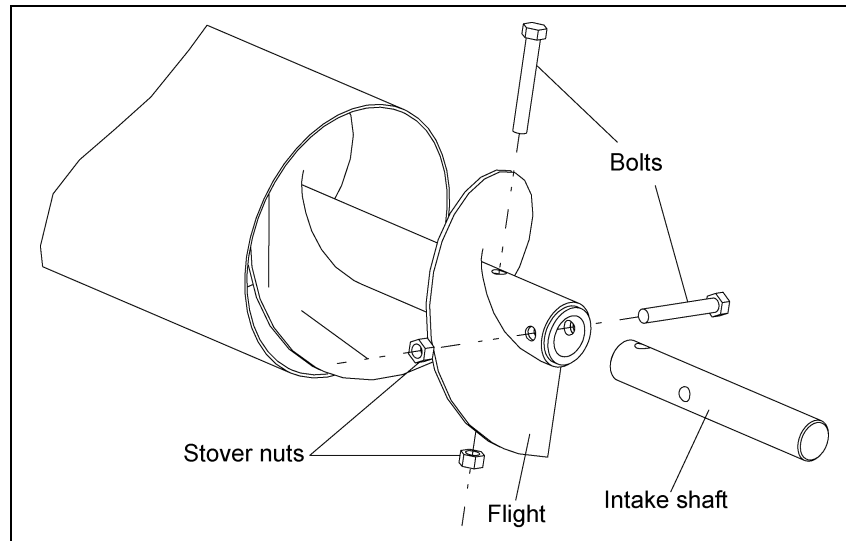

Figure 4A
- A. Begin by assembling the intake shaft to the flight using the required grade 8 bolts and stover nuts. (See Chart below and See Figure 4A.)